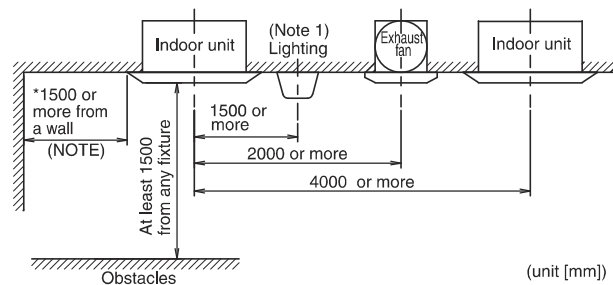

Fig. 2
- Any vents, light fixtures, or other appliances which may disturb the airflow might cause ceiling to become dirty if located too nearby, so follow **Fig. 2** when installing. (Note)
(2) Ceiling height
(3) Direction of the air discharge